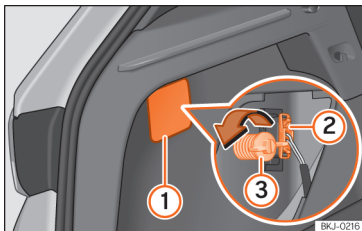
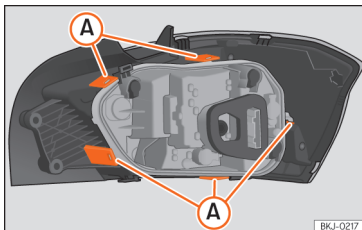

Fig. 54 Luggage compartment: access to the bolt securing the tail light unit.
Fig. 55 Retaining tabs on reverse side of tail light.
- Remove the lid, levering the flat side of a screwdriver into the recess » **Fig. 54 ①**.
- Remove the bulb connector **②**.
- Unscrew the light securing bolt **③** by hand or using a screwdriver.
- Remove the bulb holder unlocking the retaining tabs » **Fig. 55 A**.